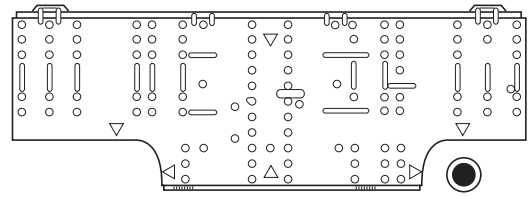

Fig. 3-50
(1) Attach the rear panel to the wall with the 10 screws provided. (Fig. 3-50)